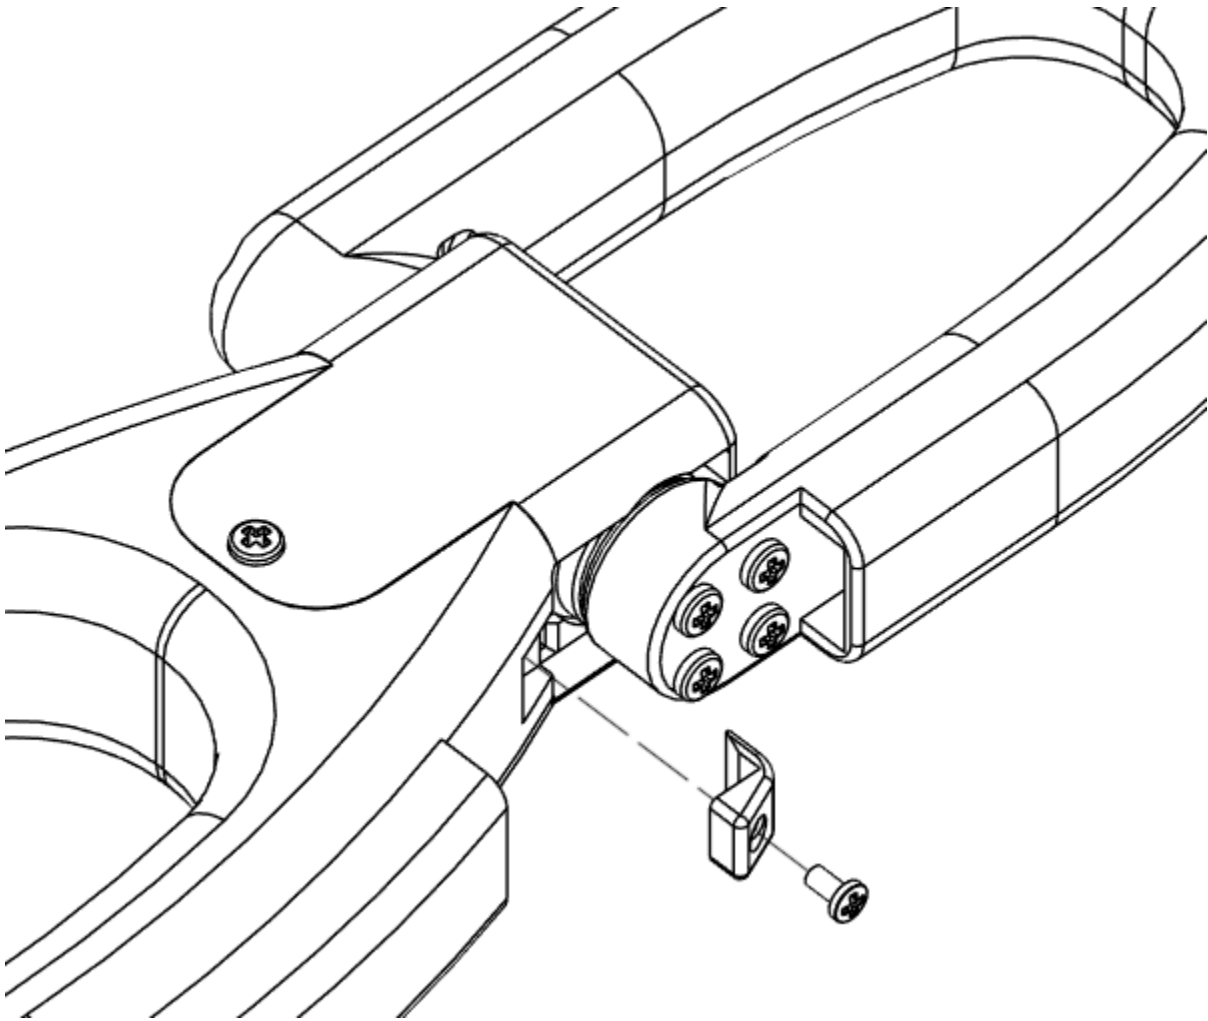

Figure 10.24 - Motor 3 Wire Clip Assembly
- 29.** Fasten Motor 3 Wire Clip to Bicep as shown in Figure 10.24
- a.** (1) M2x5mm
- b. NOTE:** Arm Wires are not shown in Figure 10.24